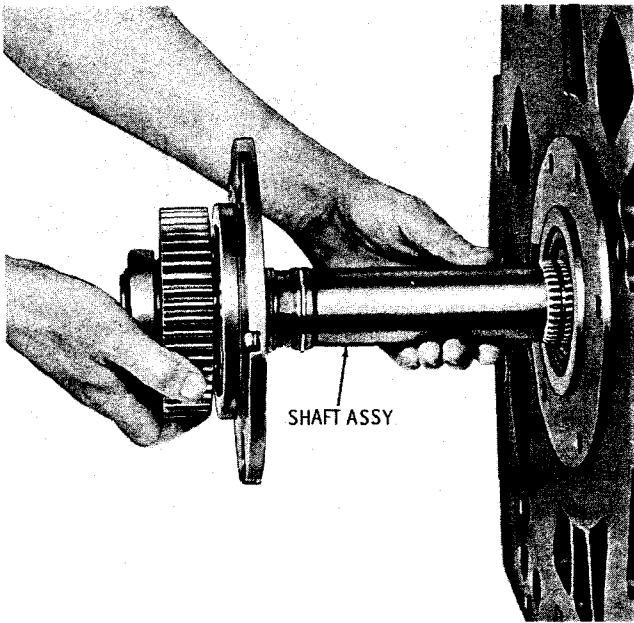

Fig. 7-31. Installing converter output shaft assembly
(1) Install the converter output shaft assembly (fig. 7-31). Install five 1/2-13 x 1 1/4-inch self-locking bolts. Tighten the bolts to 81 to 97 pound feet torque.